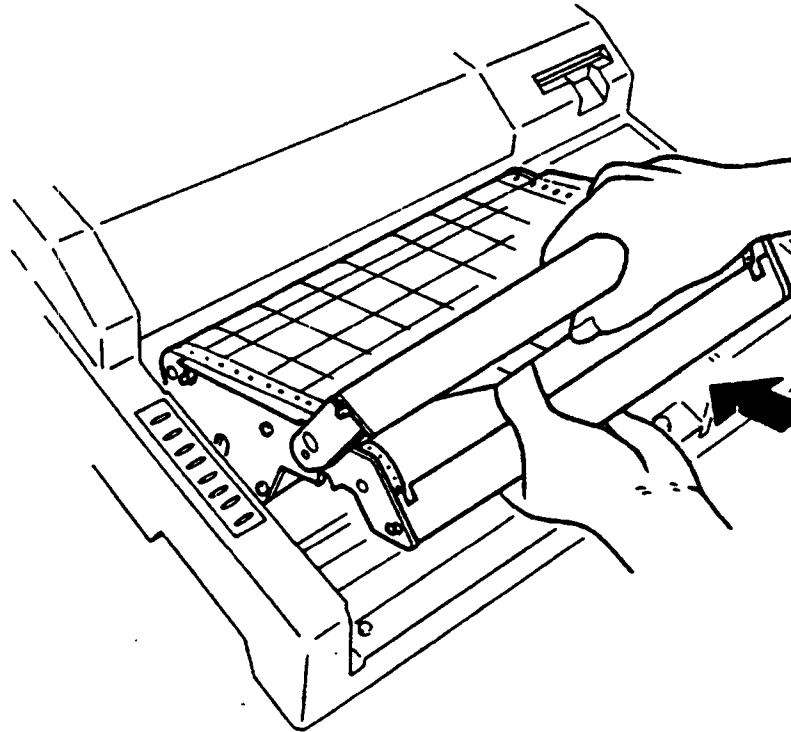

Figure 6.8
- (11) Lift the metal chart holder fitting at the front section, lift the projections on the right and left sides of the chart tray into the notches in the recorder to install the chart tray into the recorder. (See Figure. 6.8)